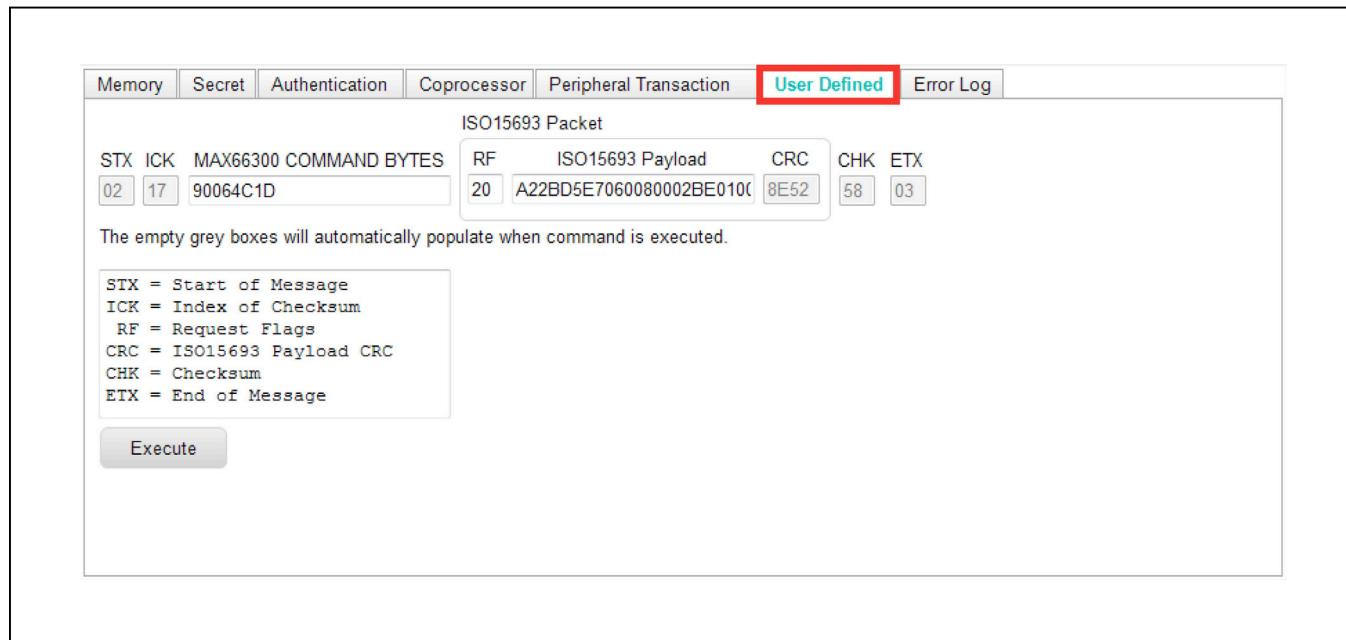

Figure 43. User Defined Tab
- 1) Click on the **User Defined** tab (Figure 43).